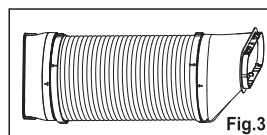

Fig.3
- 4.After assemble, like below fig. (Fig. 3)